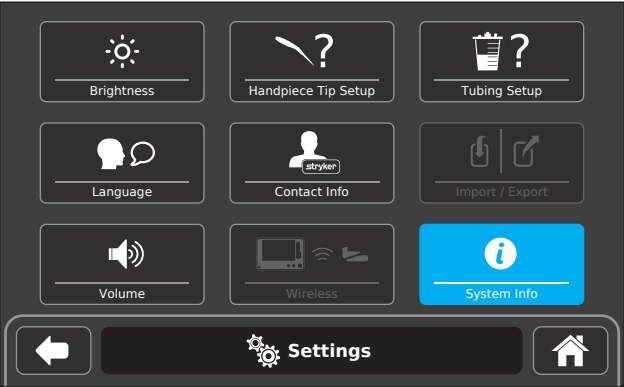

Figure 50 – System Info Selection
- From the system SETTINGS screen, touch the SYSTEM INFO (information) button (Figure 50).